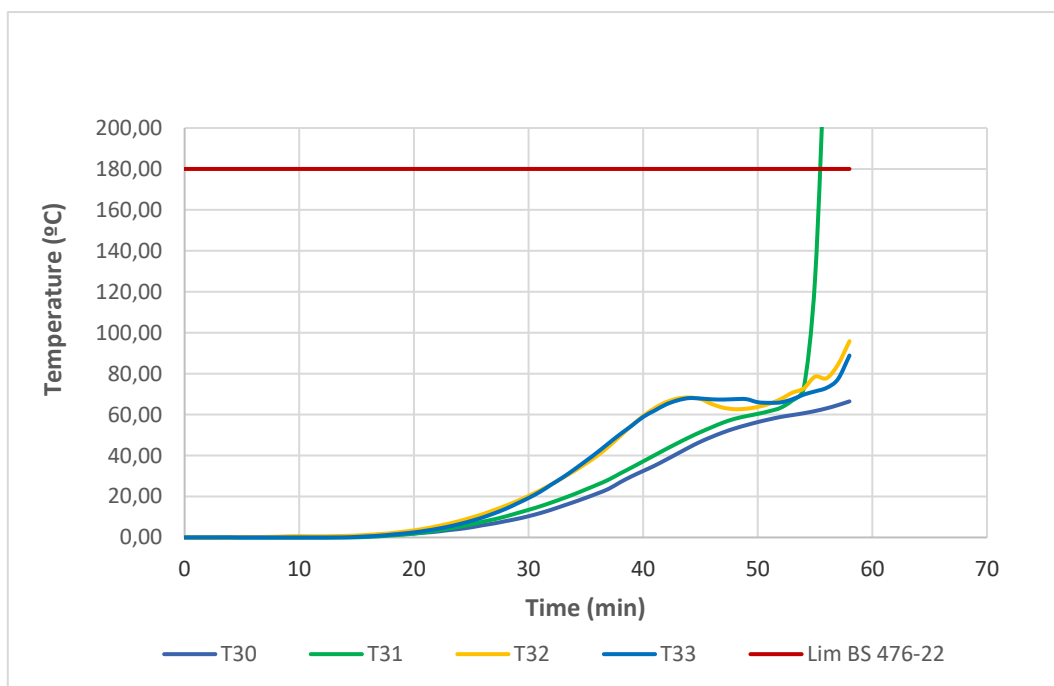

FIGURE 8
- 6.6 Figure 8 shows the temperatures of the auxiliary thermocouples placed on the unexposed side to fire of sample 7521-3.